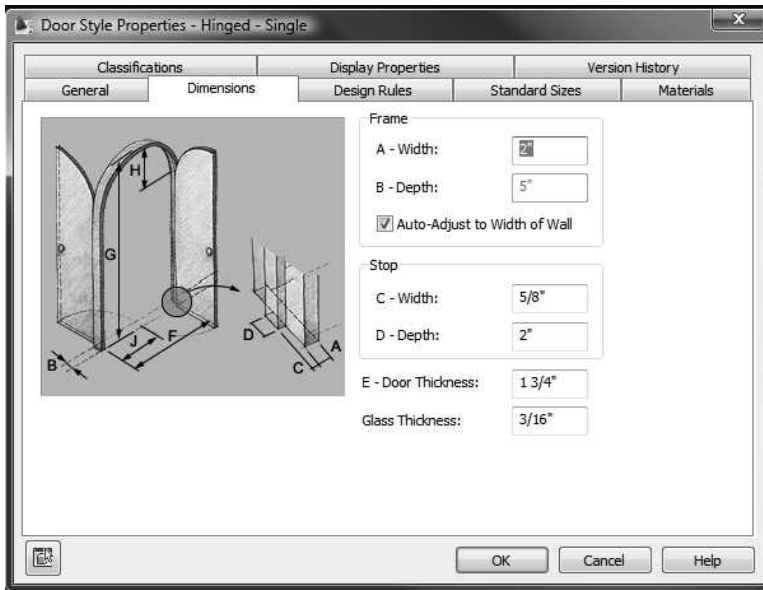

FIGURE 5.18 Dimensions tab of the Door Style Properties dialog box
6. Choose the **Dimensions** tab of the Door Style Properties dialog box. The **Dimensions** tab of the **Door Style Properties** dialog box allows you to set dimensions of the frame, stop, and door thickness, as shown in Figure 5.18.